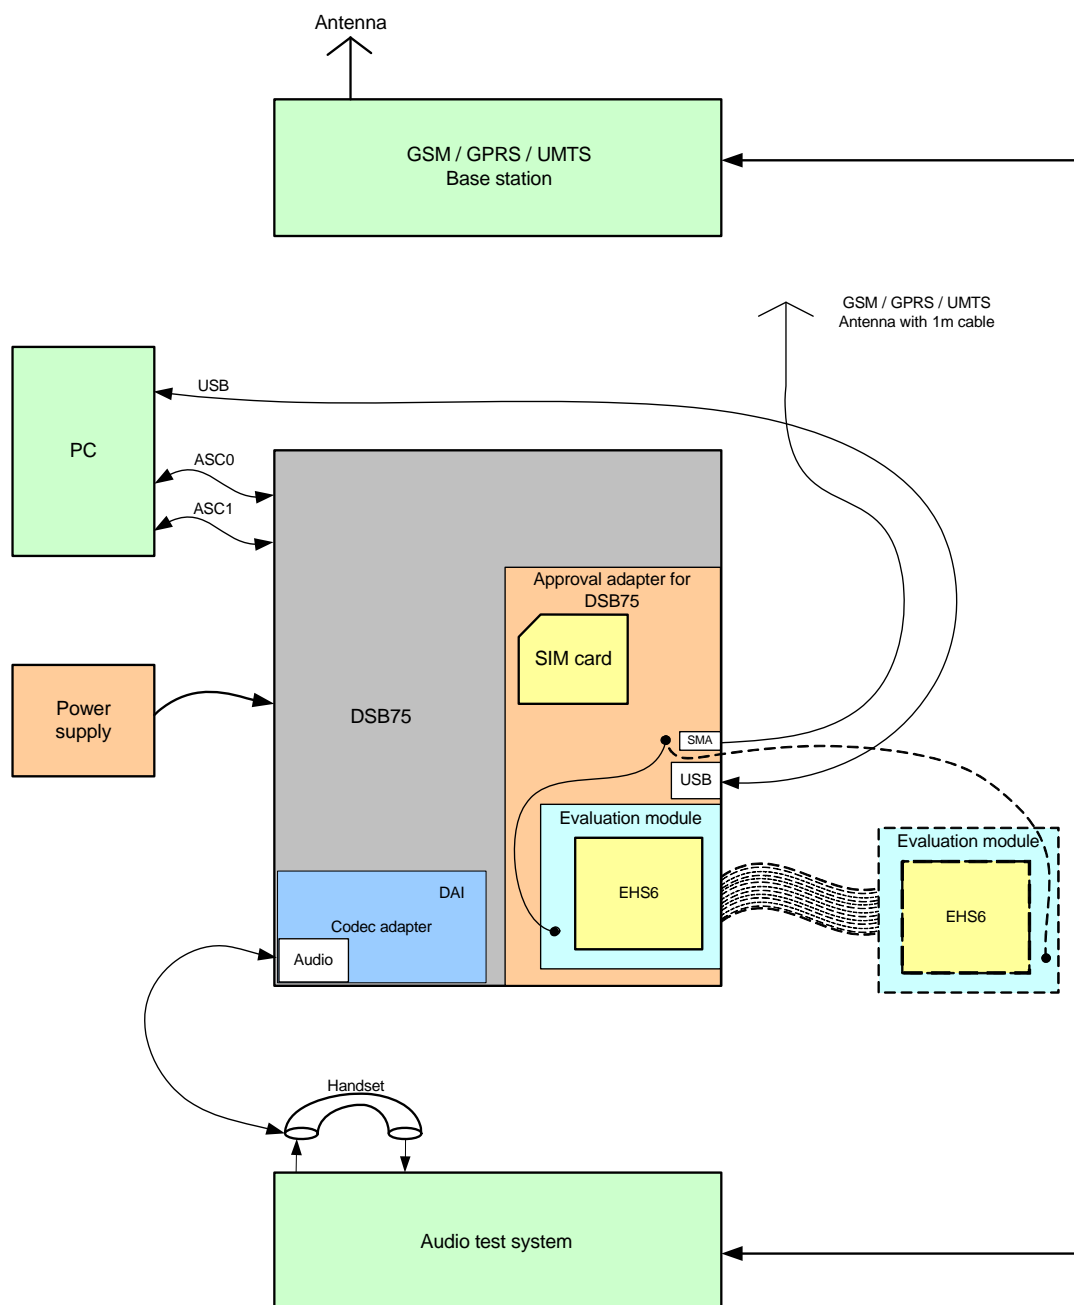

Figure 57: Reference equipment for Type Approval
1. For RF performance tests a mini-SMT/U.FL to SMA adapter with attached 6dB coaxial attenuator is chosen to connect the evaluation module directly to the GSM/UMTS test equipment instead of employing the SMA antenna connectors on the EHS6-DSB75 adapter as shown in Figure 57. The following products are recommended: